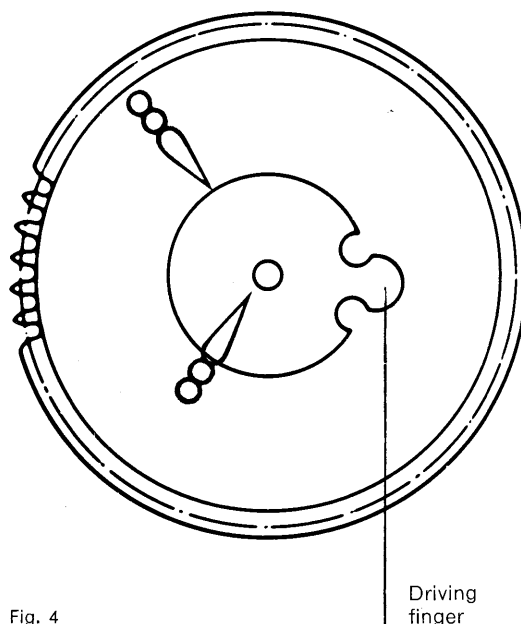

Fig. 4
- 7.1.9. Lubricate the inside of the hole of the minute wheel and the rim of the plate that is solid with it (see fig. 4).